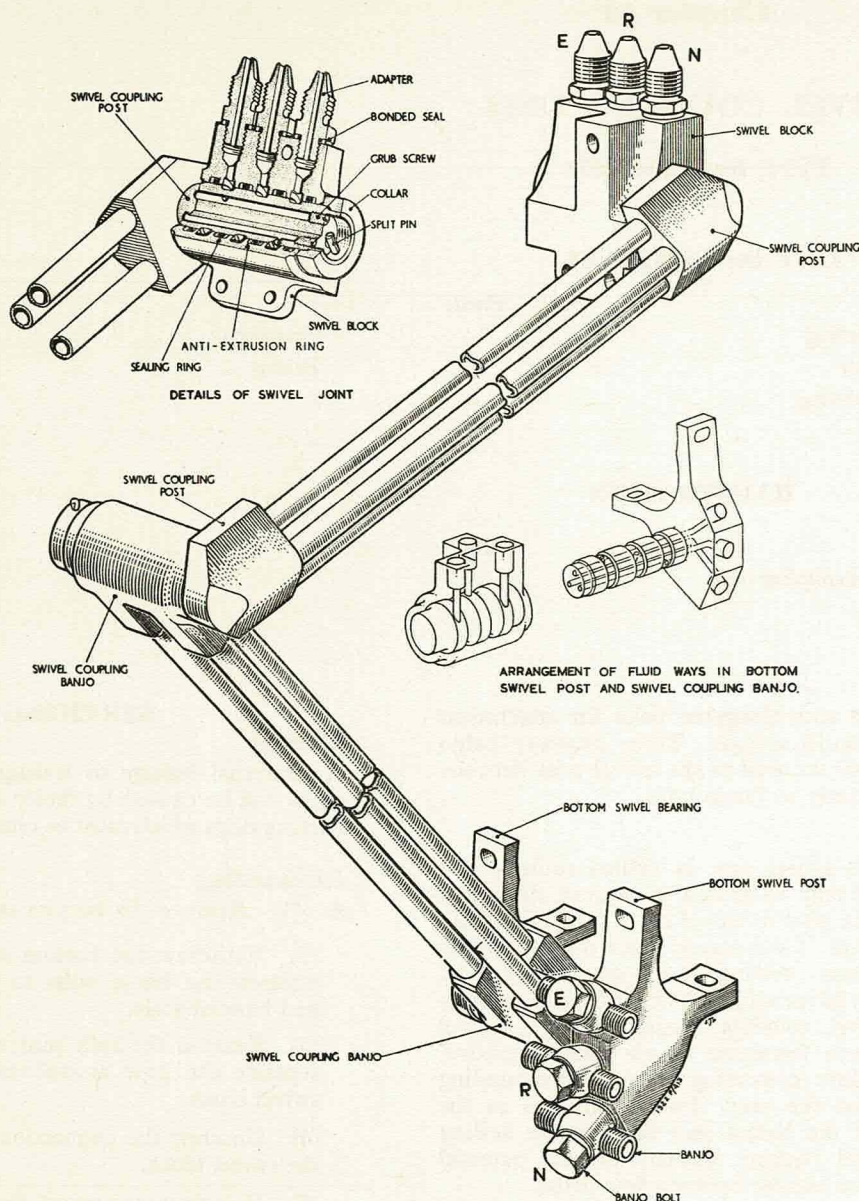

Fig. 1. Swivel coupling unit
The banjo connections must be positioned as shown in fig. 1.
(4) Assemble the swivel pipes as shown in fig. 1, securing the upper and centre joints by fitting a collar and a split pin to the post.
(5) Temporarily secure the swivel bearing on the bottom swivel post by tensioning locking wire between adjacent attachment holes of the bearing and post.